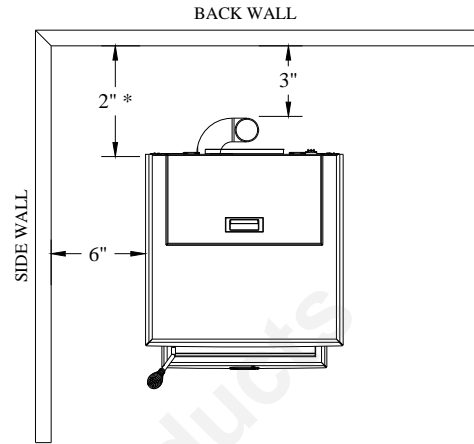

Figure 1
The BIO-35 has been tested and listed for installation in regular and mobile homes. (refer figure 1 & 2)
1. Position stove, adhering to clearances shown in Figures 1 & 2.
5. Position the stove, adhering to the clearances in Figures 1 & 2.